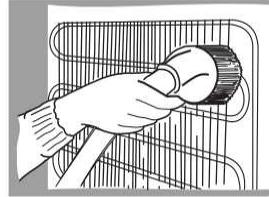

Fig. 8
- Use a soft, dry brush, electrostatic cloth or Hoover for cleaning (**fig. 8**).